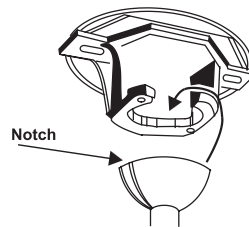

Figure 7
Step 6. Lift motor/housing assembly and place hanging ball onto hanger bracket. Rotate until the check groove has dropped into the notch of the hanging ball and seats firmly. (Fig. 7)